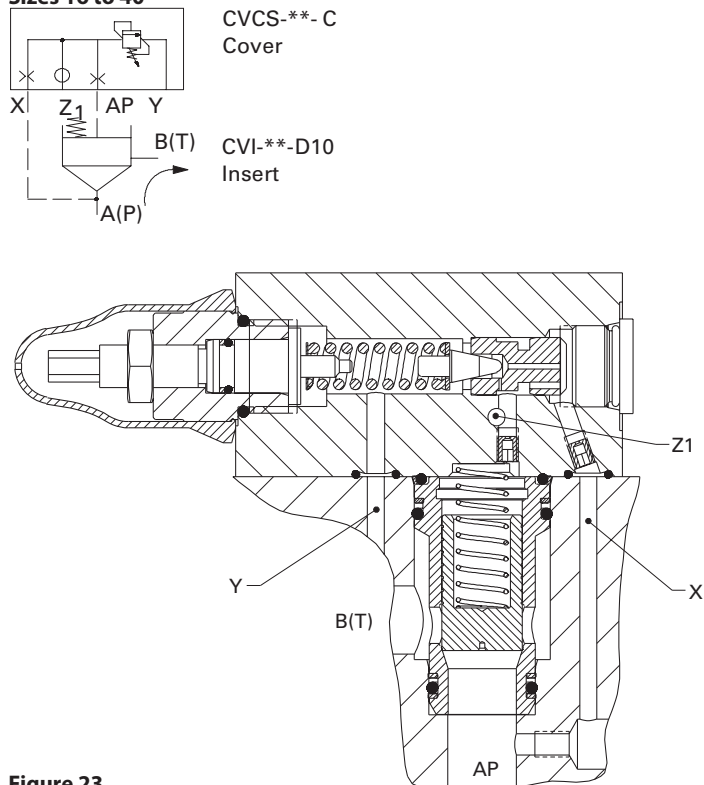

Figure 23
For stable valve operation follow Vickers by Danfoss recommendations for selection of spring for each size of insert. See model code 5, page 41. Factory-fitted orifices in the covers are sized such that a given relief cover can be used with either insert type. Further fine tuning to suit particular system requirements can be achieved by changing orifice sizes. Operation of both types D10 and C10F is similar: System pressure at A(P), Figures 23 and 24, is determined by manual pilot adjustment. Orifices in AP and X ports dampen poppet reaction time, preventing instability. Connecting port Z1 to tank (via an appropriate remote control valve) vents the system pressure at port A(P) to a level equivalent to insert poppet spring load plus override pressure. See curves starting on page 43 for override pressure versus flow rate.